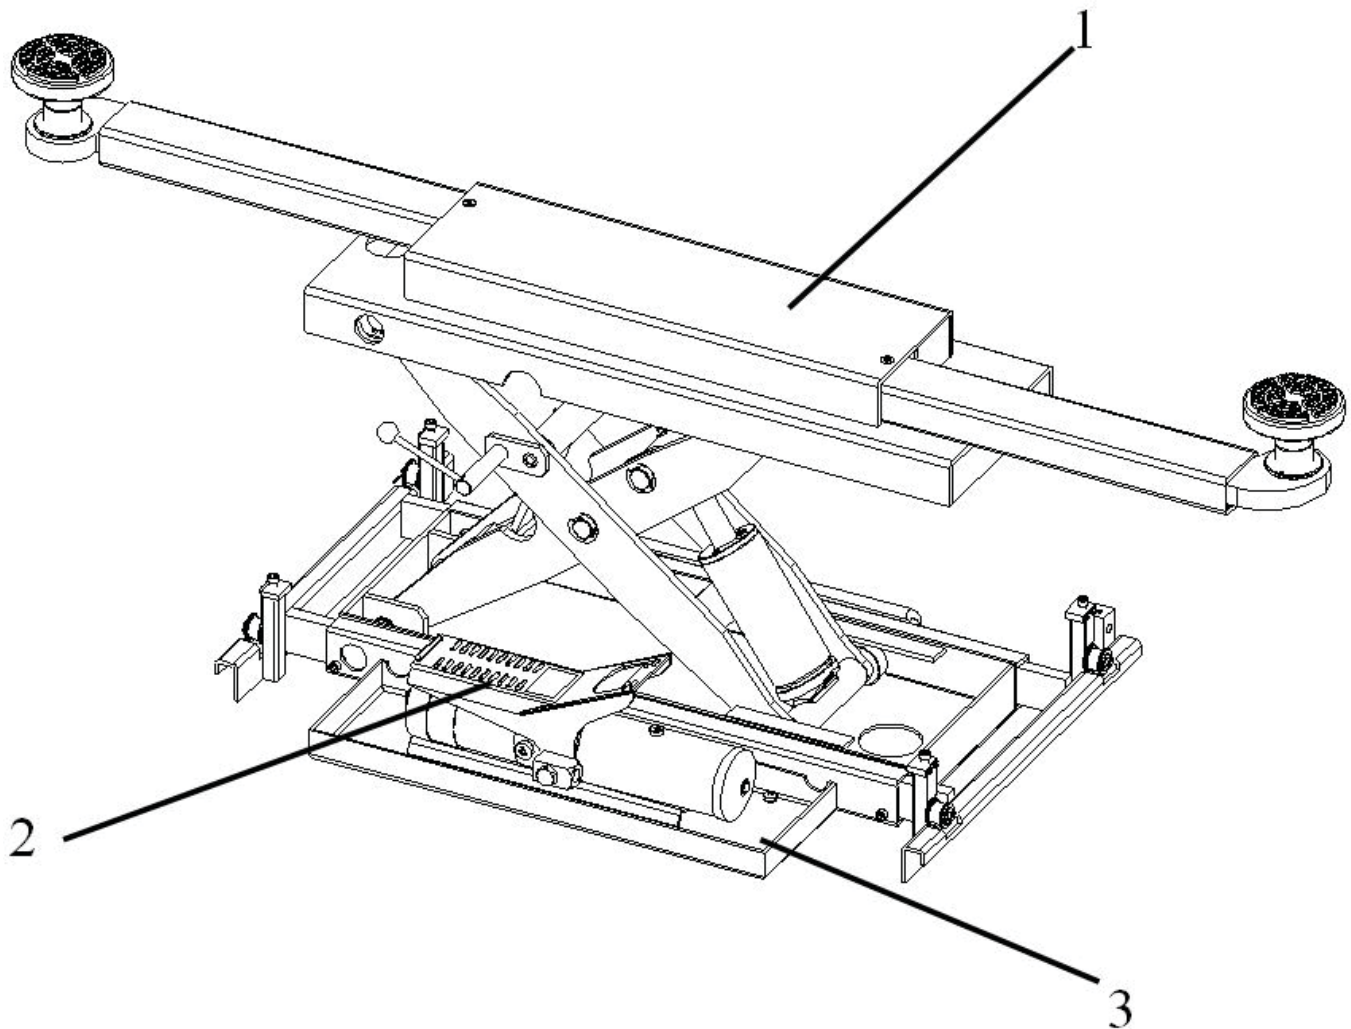

Figure 1
As shown in figure 1, the jacking beam is composed of the base unit (1) and an air-hydraulic pedal pump (2) which can be placed on the holder (3).